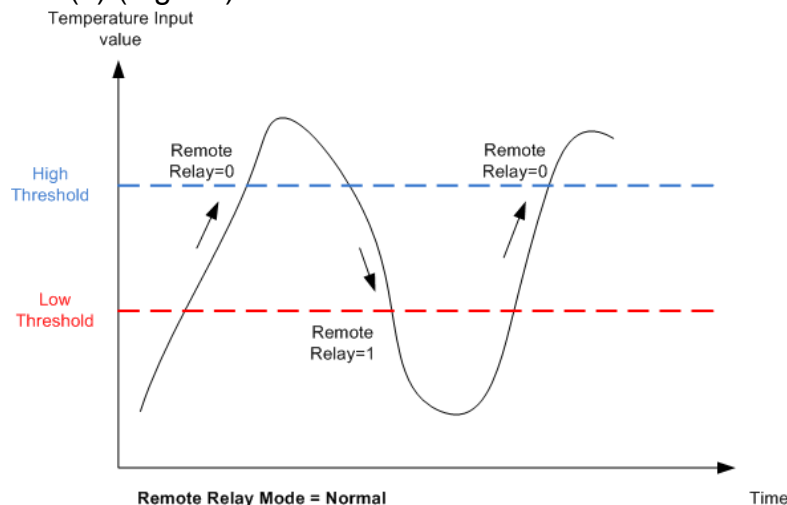

Figure 47. Controlling remote relay when **Remote Relay Mode** parameter is "Normal"
- *Normal* - when the rising Temperature Input value crosses the **High Threshold**, the remote relay (digital output) will be OFF (0). When the falling value crosses the **Low Threshold** the remote relay (digital output) will be ON (1) (Fig. 47).